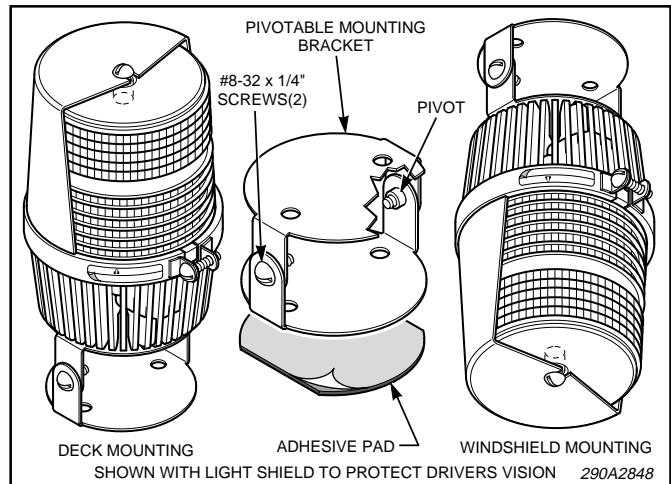

Figure 1.
1. Assemble the brackets using the two 8-32 screws and lockwashers (supplied) as shown in figure 1. Insure that the lockwashers are between the legs of the brackets.
2. Remove the release paper from one side of the gasket and apply the gasket to one of the bracket surfaces as shown in figure 1. Press the gasket firmly against the bracket to make sure that the gasket adheres properly.